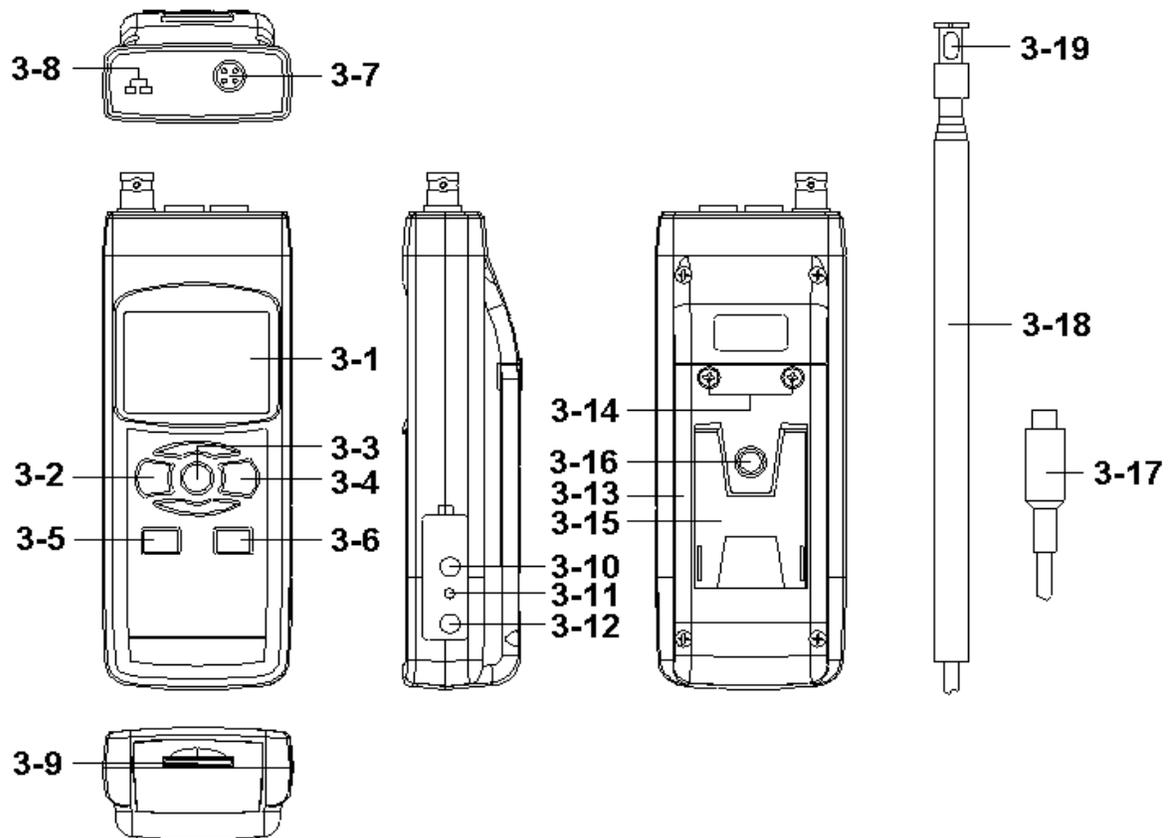

Fig. 1
1) Turn on the meter by pressing the " Power Button " (3-2, Fig. 1) momentarily.
** Pressing the " Power Button " (3-2, Fig. 1) continuously and > 2 seconds again will turn off the meter.*
Pressing the " Function Button " (3-3, Fig. 1) continuously (not release the button), the Display will show the following text in sequence :
Until the Display show the desired mode (Function), just release the " Function Button " (3-3, Fig. 1), the meter will execute this function with default.
- 3) Plug the " Probe Plug " (3-17, Fig. 1) into the " Probe Input Socket " (3-7, Fig. 1).
Power on the meter by pressing the " Power Button " (3-2, Fig. 1) once,
- 4) Hold the " Telescope Probe " (3-18, Fig. 1) by hand and let the " Sensing Head " (3-19, Fig. 1) face against the measuring air flow source, then the Display (3-1, Fig. 1) will show air velocity directly. At the same time, the lower Display will show the air temperature value.
- 2)Plug the Thermocouple Temp. Probe (Type K Temp. probe pr Type J Temp. probe, optional) into " Type K/J Probe Input Socket " (3-8, Fig. 1)
During the measurement, press the " Hold Button " (3-3, Fig. 1) once will hold the measured value & the LCD will display a " HOLD " symbol.
- 1) The data record function records the maximum and minimum readings. Press the " REC Button " (3-4, Fig. 1) once to start the Data Record function and there will be a " REC " symbol on the display.
- a) Press the " REC Button " (3-4, Fig. 1) once, the " REC MAX " symbol along with the maximum value will appear on the display.
If intend to delete the maximum value, just press the " Hold Button " (3-3, Fig. 1) once, then the display will show the " REC " symbol only & execute the memory function continuously.
- b) Press the " REC Button " (3-4, Fig. 1) again, the " REC MIN " symbol along with the minimum value will appear on the display.
If intend to delete the minimum value, just press the " Hold Button " (3-3, Fig. 1) once, then the display will show the " REC " symbol only & execute the memory function continuously.
After power ON, the " LCD Backlight " will light automatically. During the measurement, press the " Backlight Button " (3-2, Fig. 1) once will turn OFF the " LCD Backlight " .
insert the SD card into the " SD card socket " (3-9, Fig. 1).
Press the " REC Button (3-4, Fig. 1) once , the LCD will show the text " REC ", then press the " Logger Button " (3-6, Fig. 1), the " REC " will flashing, at the same time the measuring data along the time information will be saved into the memory circuit.